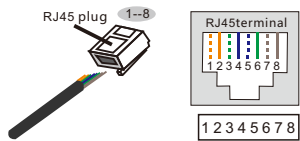

Figure 4.19 Strip the insulation layer and connect to RJ45 plug
2.Use the network wire stripper to strip the insulation layer of the communication cable. According to the standard line sequence of figure 4.19 connect the wire to the plug of RJ45, and then use a network cable crimping tool to make it tight.